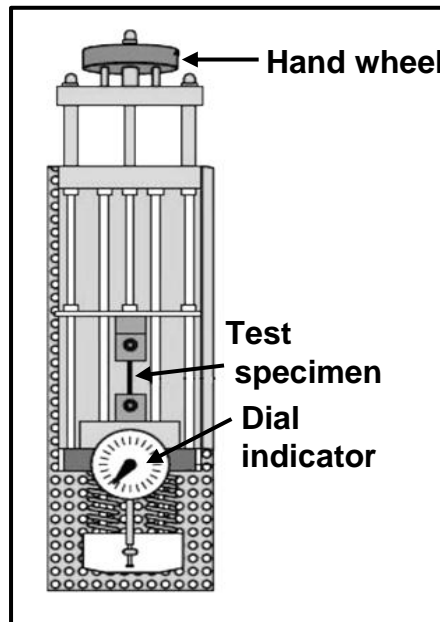

FIGURE 7.4
- 7.4 FIGURE 7.4 below shows a tester used to test the mechanical properties of material. Answer the questions that follow.